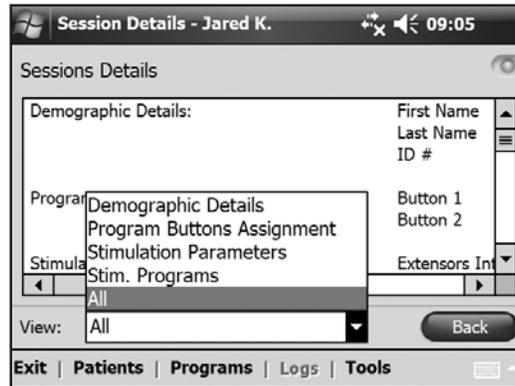

Figure 8-39: Session Details window.
4. The Session Details window will open, showing the details saved for the session. See Figure 8-39.